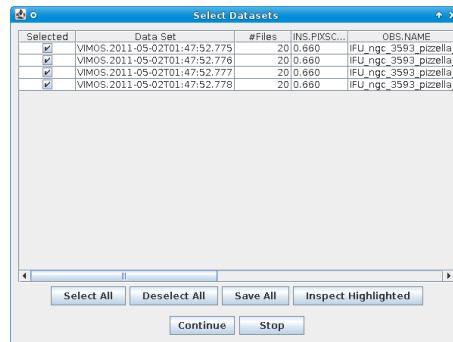

Figure 4.3: The “Select Datasets” pop-up window.
- The Data Set Chooser actor will be highlighted next and will display a “Select Datasets” window (see Figure 4.3) that lists the DataSets along with the values of a selection of useful header keywords⁶ namely the object name, grism and filter name, information about the slit/mask (INS.MASK.ID for MXU, INS.MOS.CHECKSUM for MOS, and INS.SLIT.NAME for LSS), binning, and detector name. The first column consists of a set of tick boxes which allow the user to select the DataSets to be processed, and by default all DataSets are selected.